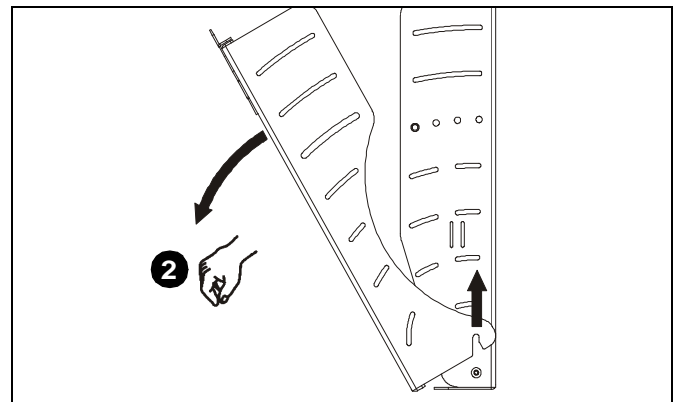

Figure 3
2. Tilt front plate away from wall and then lift out of lower front plate attach screws (See Figure 3). Place front plate on protective surface.